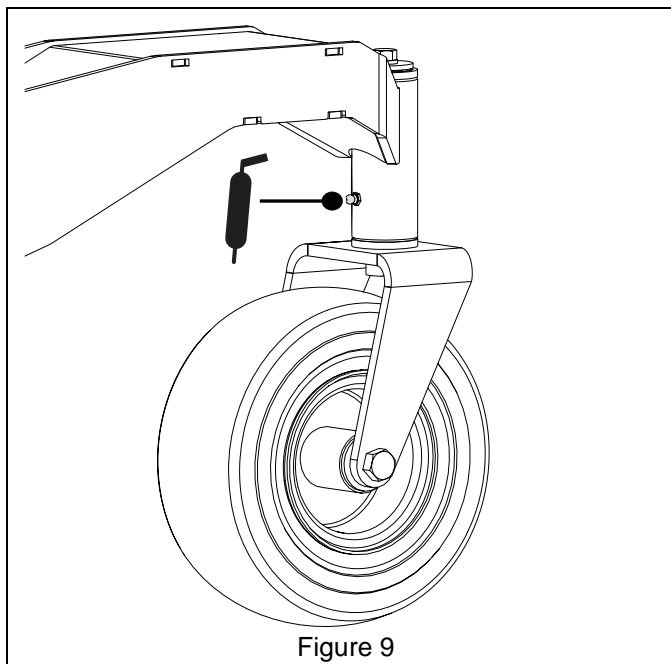

Figure 9
1. Apply grease to caster fork at grease zerk. See Figure 9.